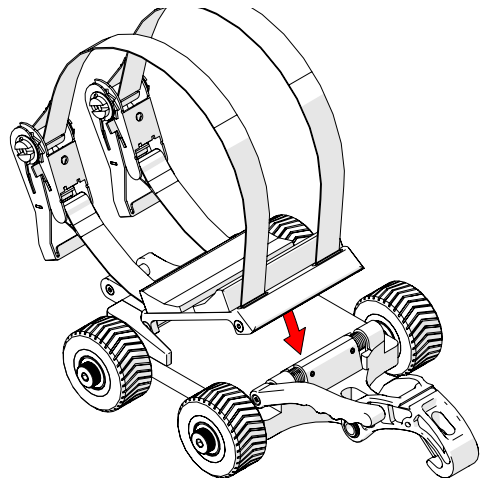

Fig. 61 - Angle the mounting plate and press into place
1. Angle the mounting plate into the source cart base (Fig. 61).